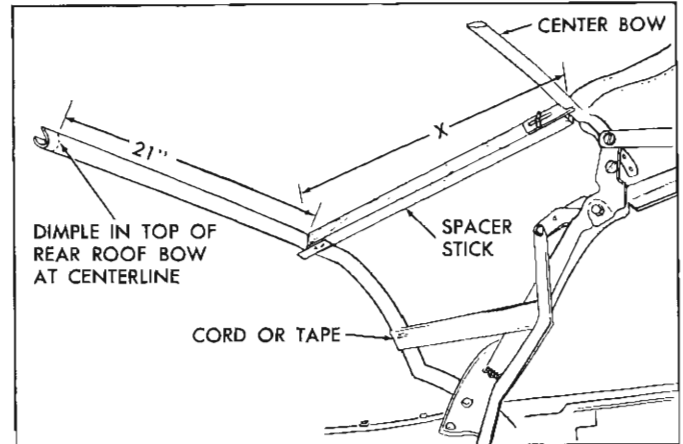

Fig. 59—Installation of Spacer Sticks
bow (fig. 59). Spacer sticks should be installed along inboard edge of side stay pad or approximately 21" outboard from centerline dimple of rear roof bow. While exerting rearward pressure on rear bow to draw side stay pads taut, extend spacer sticks until they fit snug between center bow and rear roof bow, then tighten wing nuts.
13. Temporarily tie or tape rear bow to rear side roof rails. See Figure 59. Detach nylon webbing, side stay pads and back curtain assembly from rear bow.